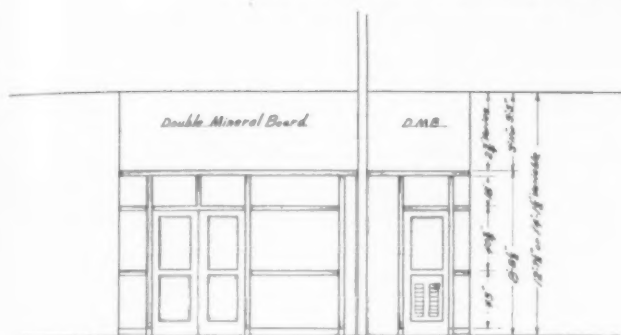

Fig. 2. Typical Elevation of Steel and Glass Partition
**Partitions.**—These are regular steel and glass office-type partitions (see Fig. 2). While some sections are all steel and others steel and glass, they are all movable. These extend upward 8 ft. 9 in. Above that point double-faced mineral board partitions rise to the girders.